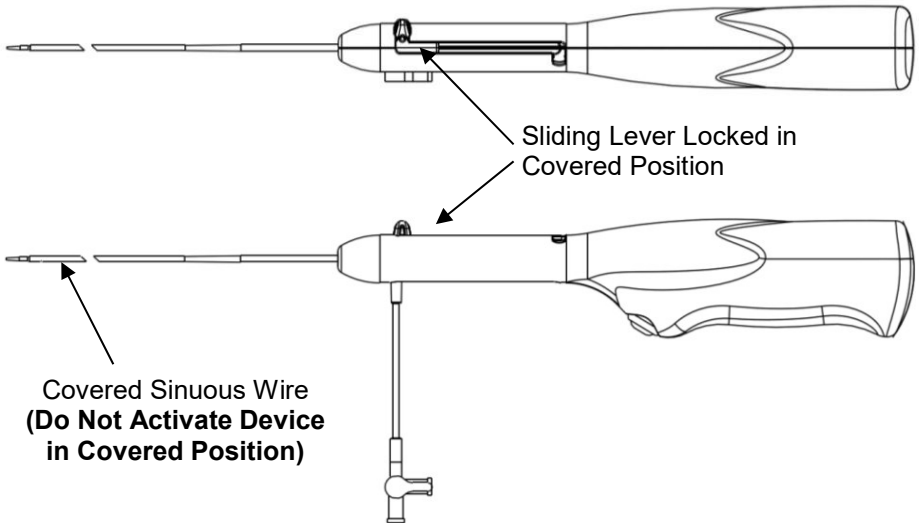

Figure 3
9. Place the device in the covered position by pushing the sliding lever to the distal position and rotating the sliding lever to lock in the covered position (refer to Figure 3). When in the covered position, only the flexible tip of the sinusoidal wire should extend from the catheter. **Warning: The device should not be activated in the covered position.**